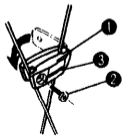

Fig. 7
- (1) Attach the magnet by clamping the right spokes of the front wheel (Fig. 7)